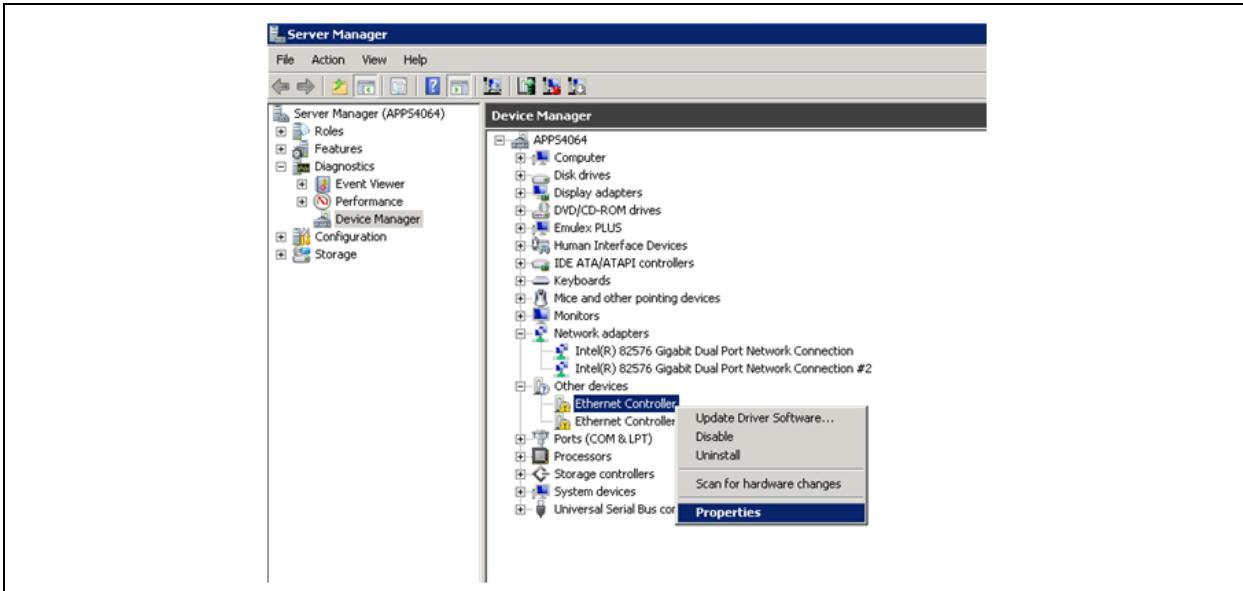

Figure 3-5. Device Properties
3. In the right pane, under **Other Devices**, right click on any device and click **Properties** (Figure 3-5).